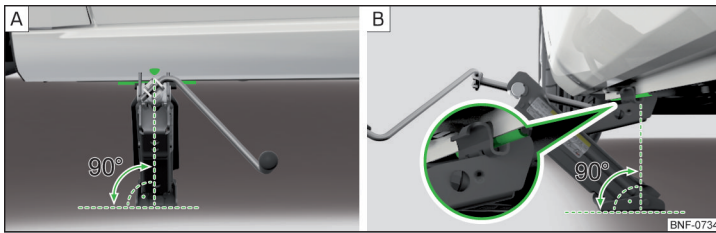

Fig. 123 Attach lifting jack
- Position the base plate of the jack with its full area resting on level ground and ensure that the jack will fit in the jacking point when raised » Fig. 123 - [A].
- Use the crank to raise the jack until its pawl covers the jacking point » Fig. 123 - [B].